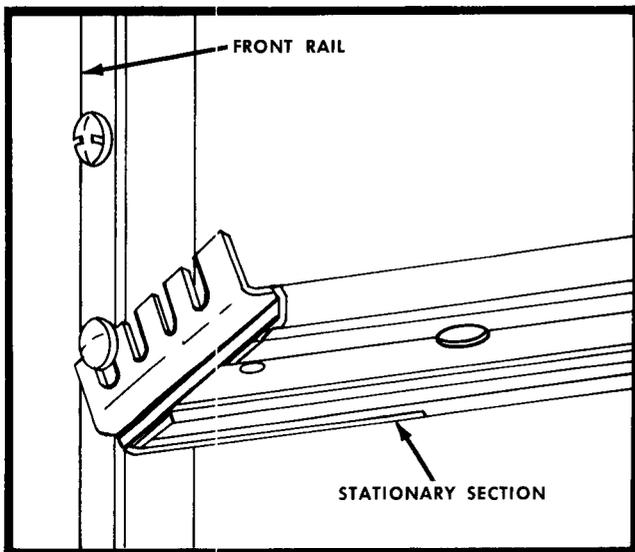
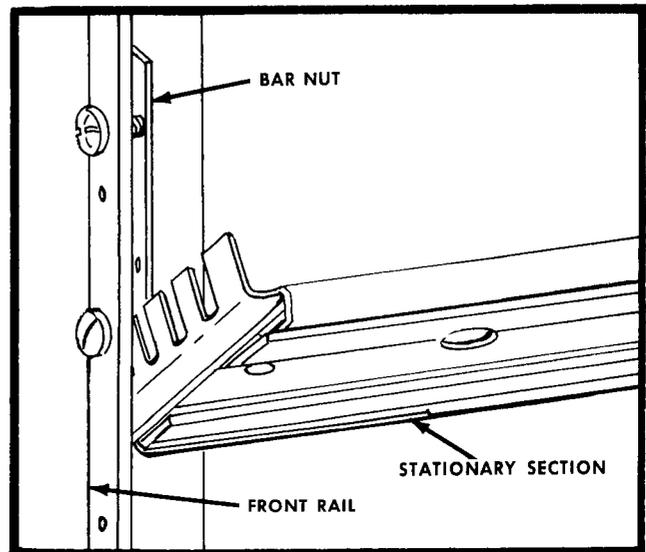

Fig. 2-2. Mounting the slideout track stationary section to the cabinet front rail using threaded holes.
Fig 2-3. Mounting the slideout track stationary section to the cabinet front rail.
1. Select the desired position of the instrument within the rack. The bottom hole on the front panel of the instrument should line up with a hole in the rail. Mark the hole and remove the instrument. If the hole is tapped for a 10-32 screw, thread one of the BHS screws several turns into the hole. Thread another BHS screw into a hole  $1\frac{3}{4}$  inches above the first one. Install the front of the slideout-track stationary section as shown in Fig. 2-2. If the holes are not tapped, slip the screws through the holes (enlarge if necessary) and use the bar nut as shown in Fig. 2-3.